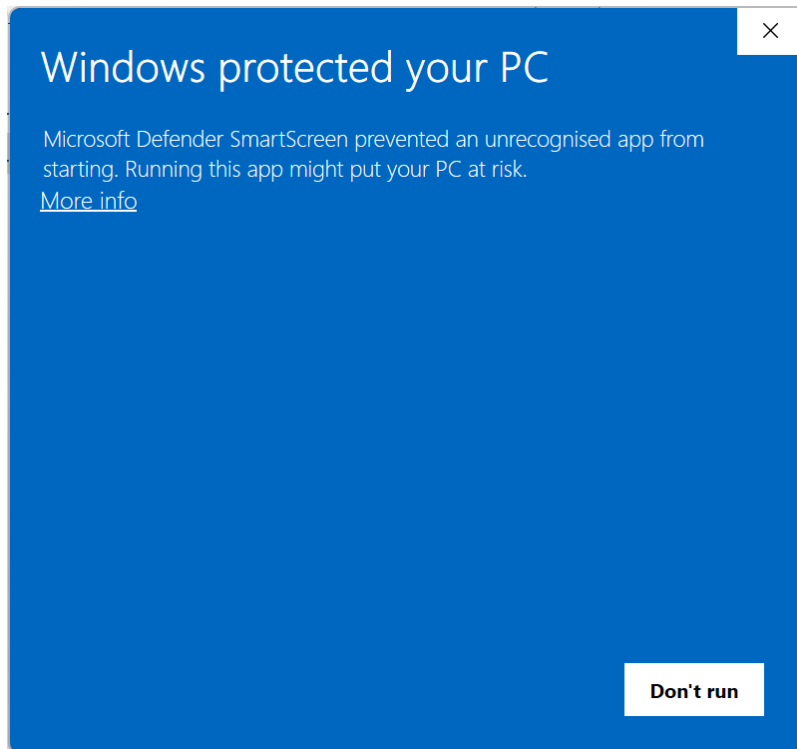
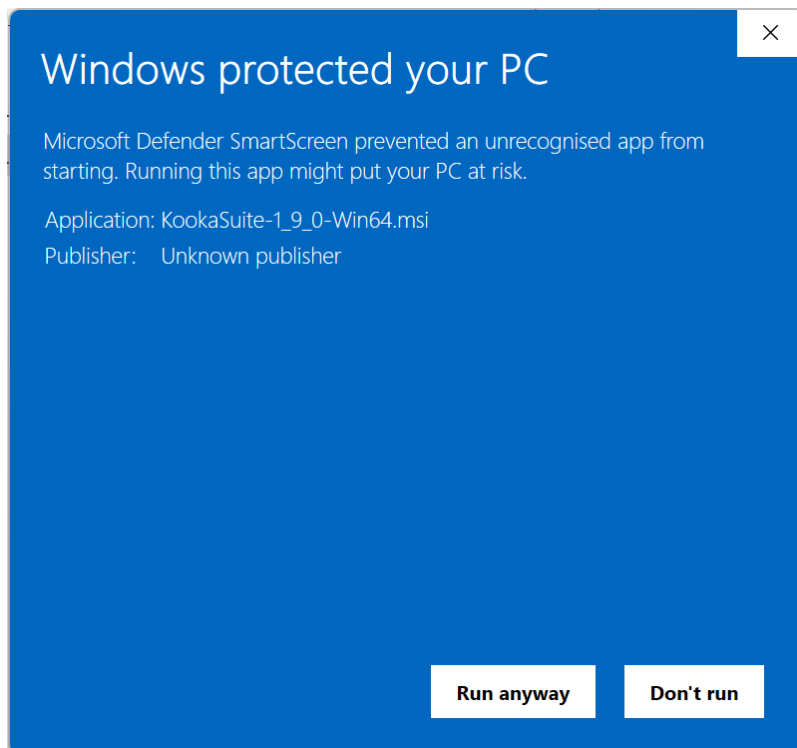

Fig. 1.3: Click on **More info** to proceed to the next dialogue.
Fig. 1.4: Click on **Run Anyway** to proceed.
1. **KookaSuite** does not (as yet) have an application trust certificate, so Windows Defender will alert you with the dialogues in Fig. 1.3 and Fig. 1.4.